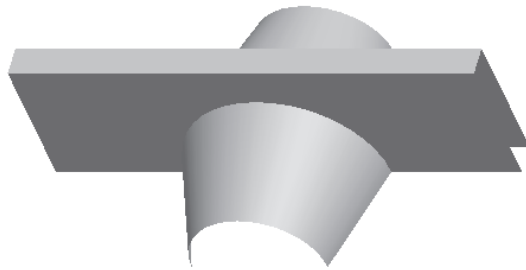

Figure 14-91 Model after creating the mirror copy of the blend surface
- d. The third feature is a mirror copy of the second feature, refer to Figure 14-91.
2. Select the **FRONT** datum plane and exit the dashboard. The blend surface is mirrored about the selected datum plane, as shown in Figure 14-91.